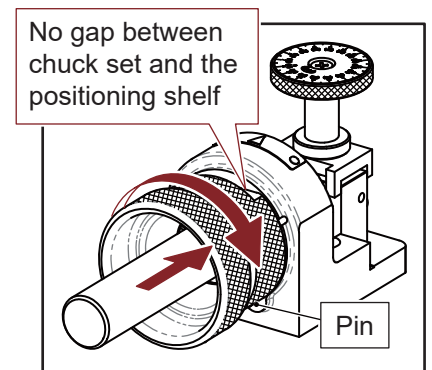

Fig. 6-2
3. Align slot of the clamping nut to the pin on the positioning shelf, then insert the chuck set into the positioning shelf and fit them with no gaps, then turn the chuck set clockwise until it stops by the pin. (Fig. 6-2)